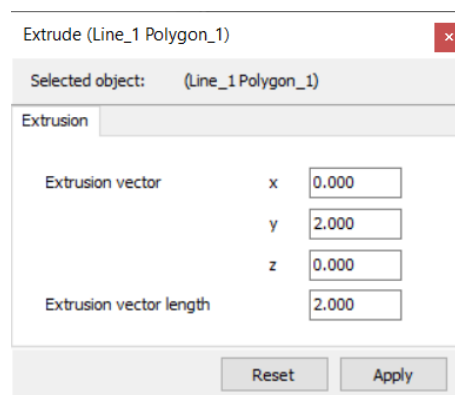

Figure 88: Extrusion window
5.  Click the **Extrude object** button. Assign a value of 2 to the y-component of the extrusion vector as shown Figure 88 (on page 115) and click **Apply**.